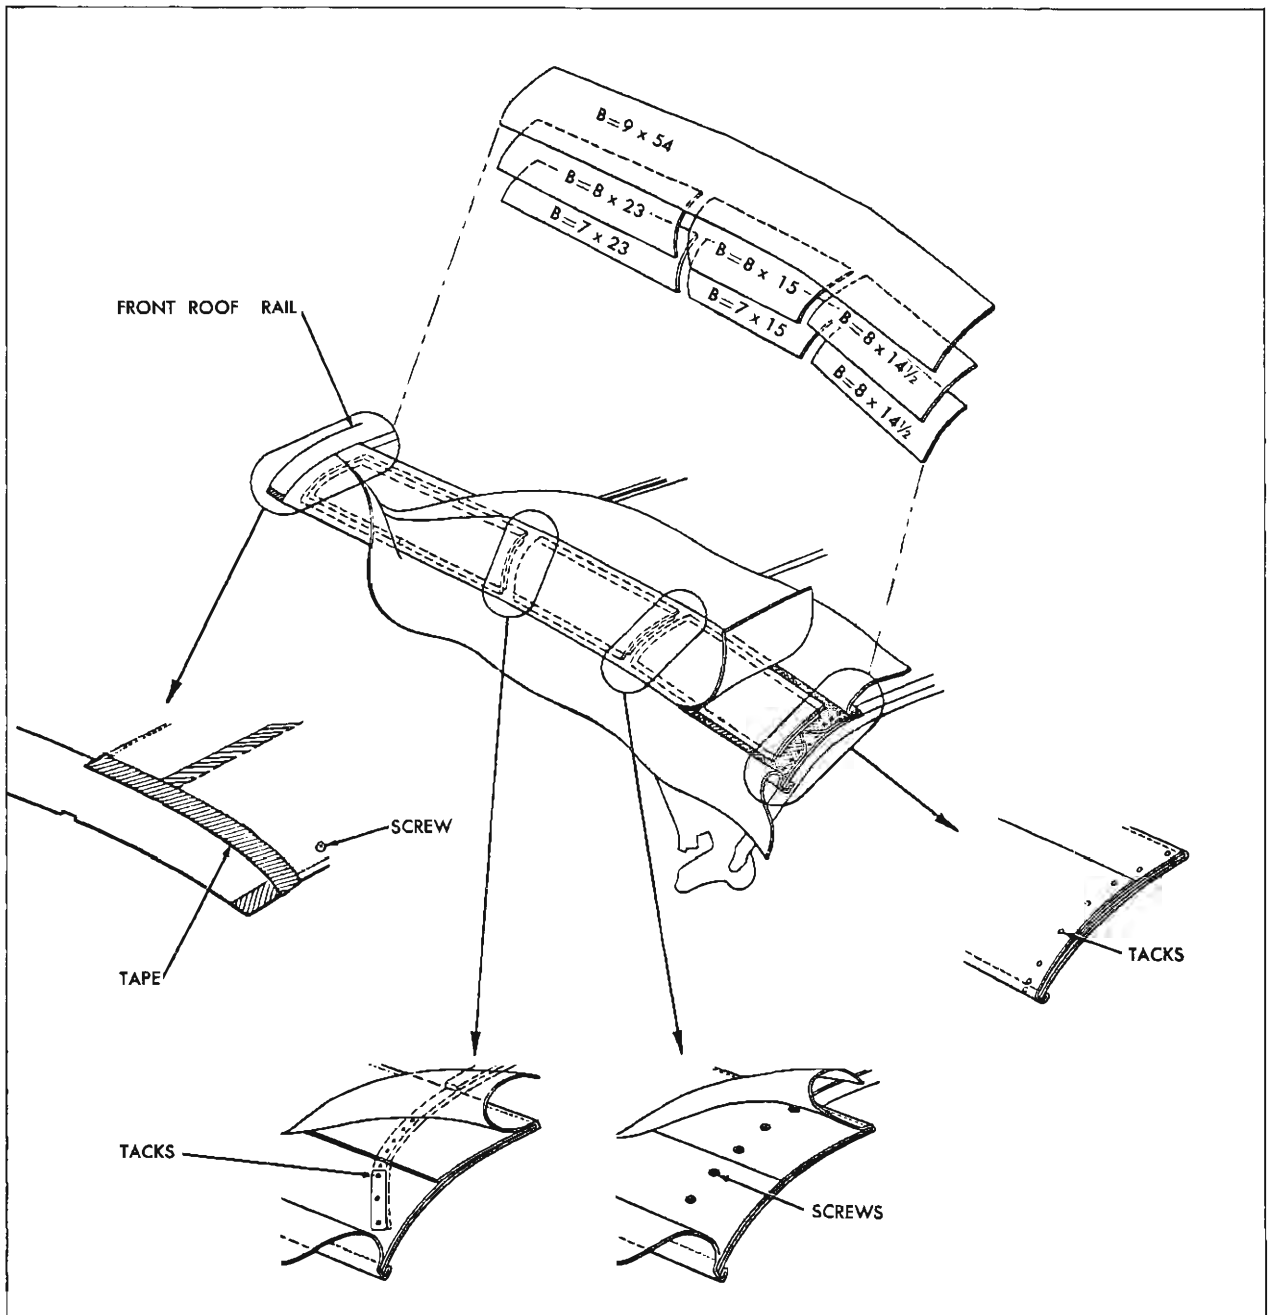
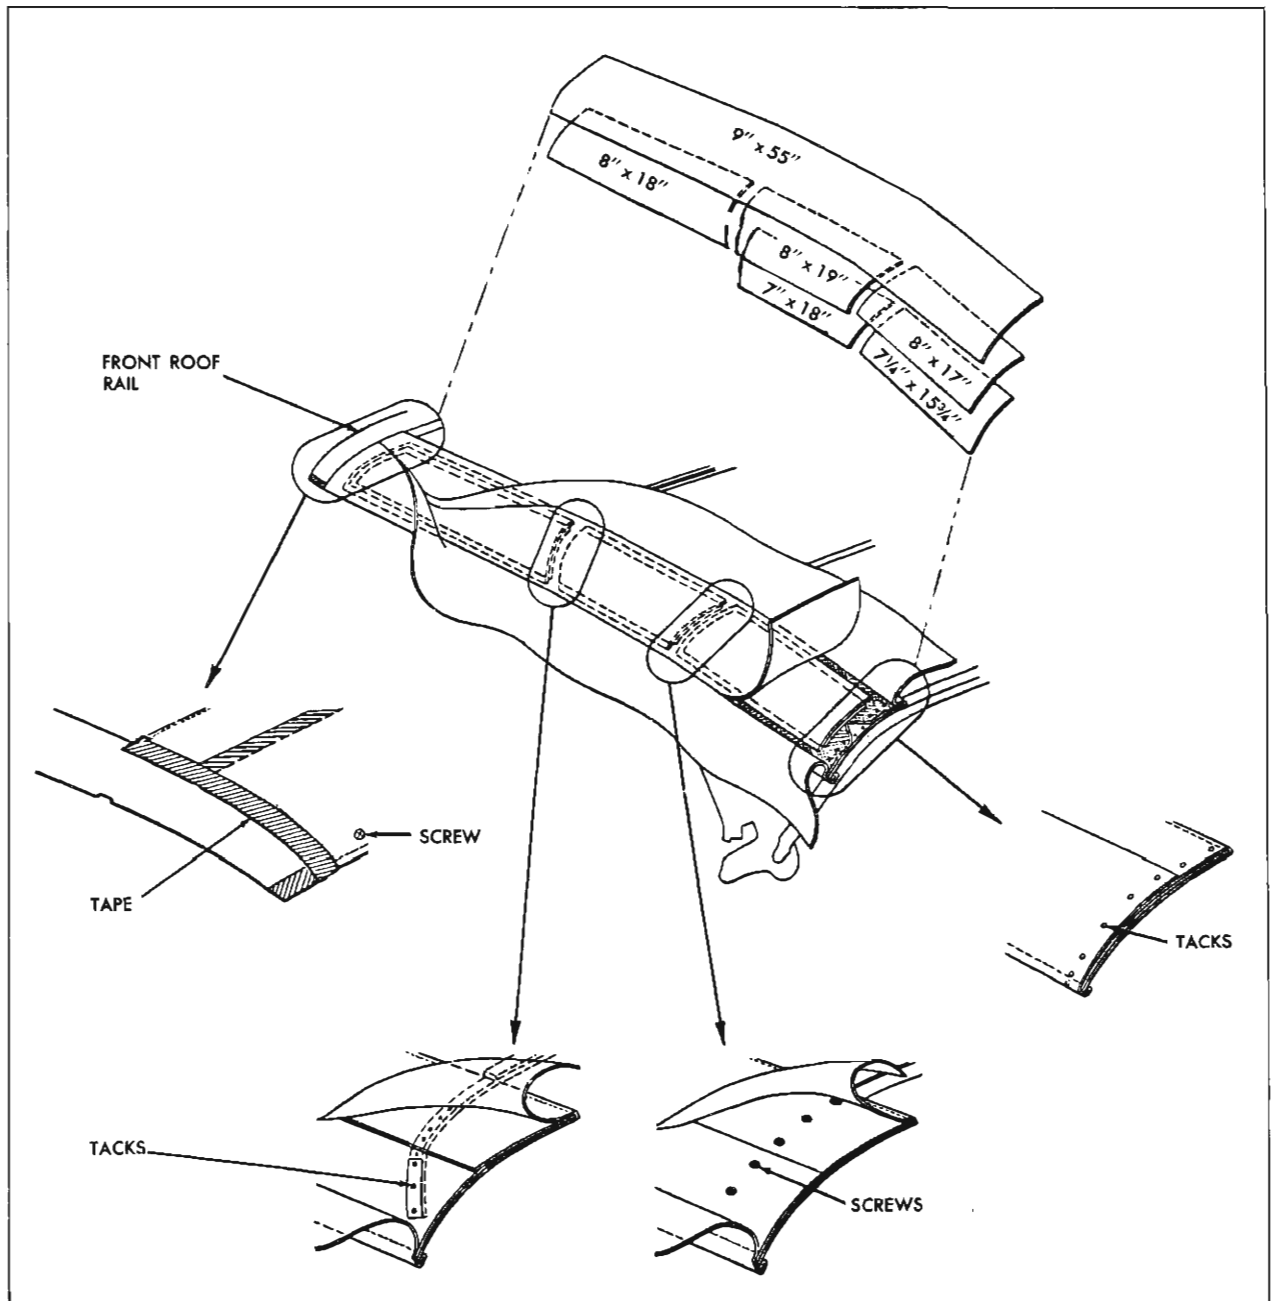

Fig. 21-38 Installation of Side Stay Pads (Pontiac Styles)
Fig. 21-39 Installation of Side Stay Pads (Tempest Styles)
3. Tack side stay pads in conventional manner to rear roof bow and front roof rail. Make sure inboard edge of pad is properly aligned within depressions in bow and rail. Tack stay pad to front bow. Inboard edge of pad should be located within  $\frac{1}{4}$  inch of outboard edge of front bow felt silencer. Install pad to center bow with screws. Make sure inboard edge of pad is properly aligned within depression in bow. Install stay pad wadding in conventional manner using an approved trim cement. (Fig. 21-38 for Pontiac styles—Fig. 21-39 for Tempest styles).